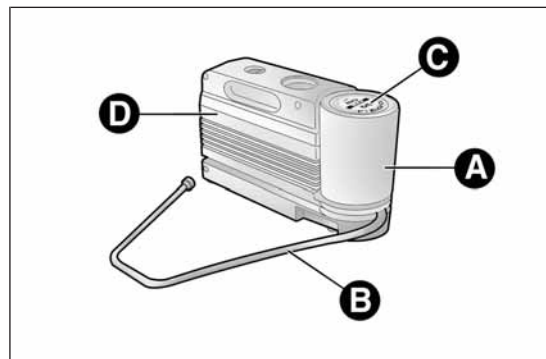

fig. 127
- ☐ a bottle fig. 127 containing sealer and fitted with: filling tube B and adhesive label C with the wording "max. 80 km/h" to be placed in a clearly visible position (e.g. on the dashboard) after repairing the tyre;